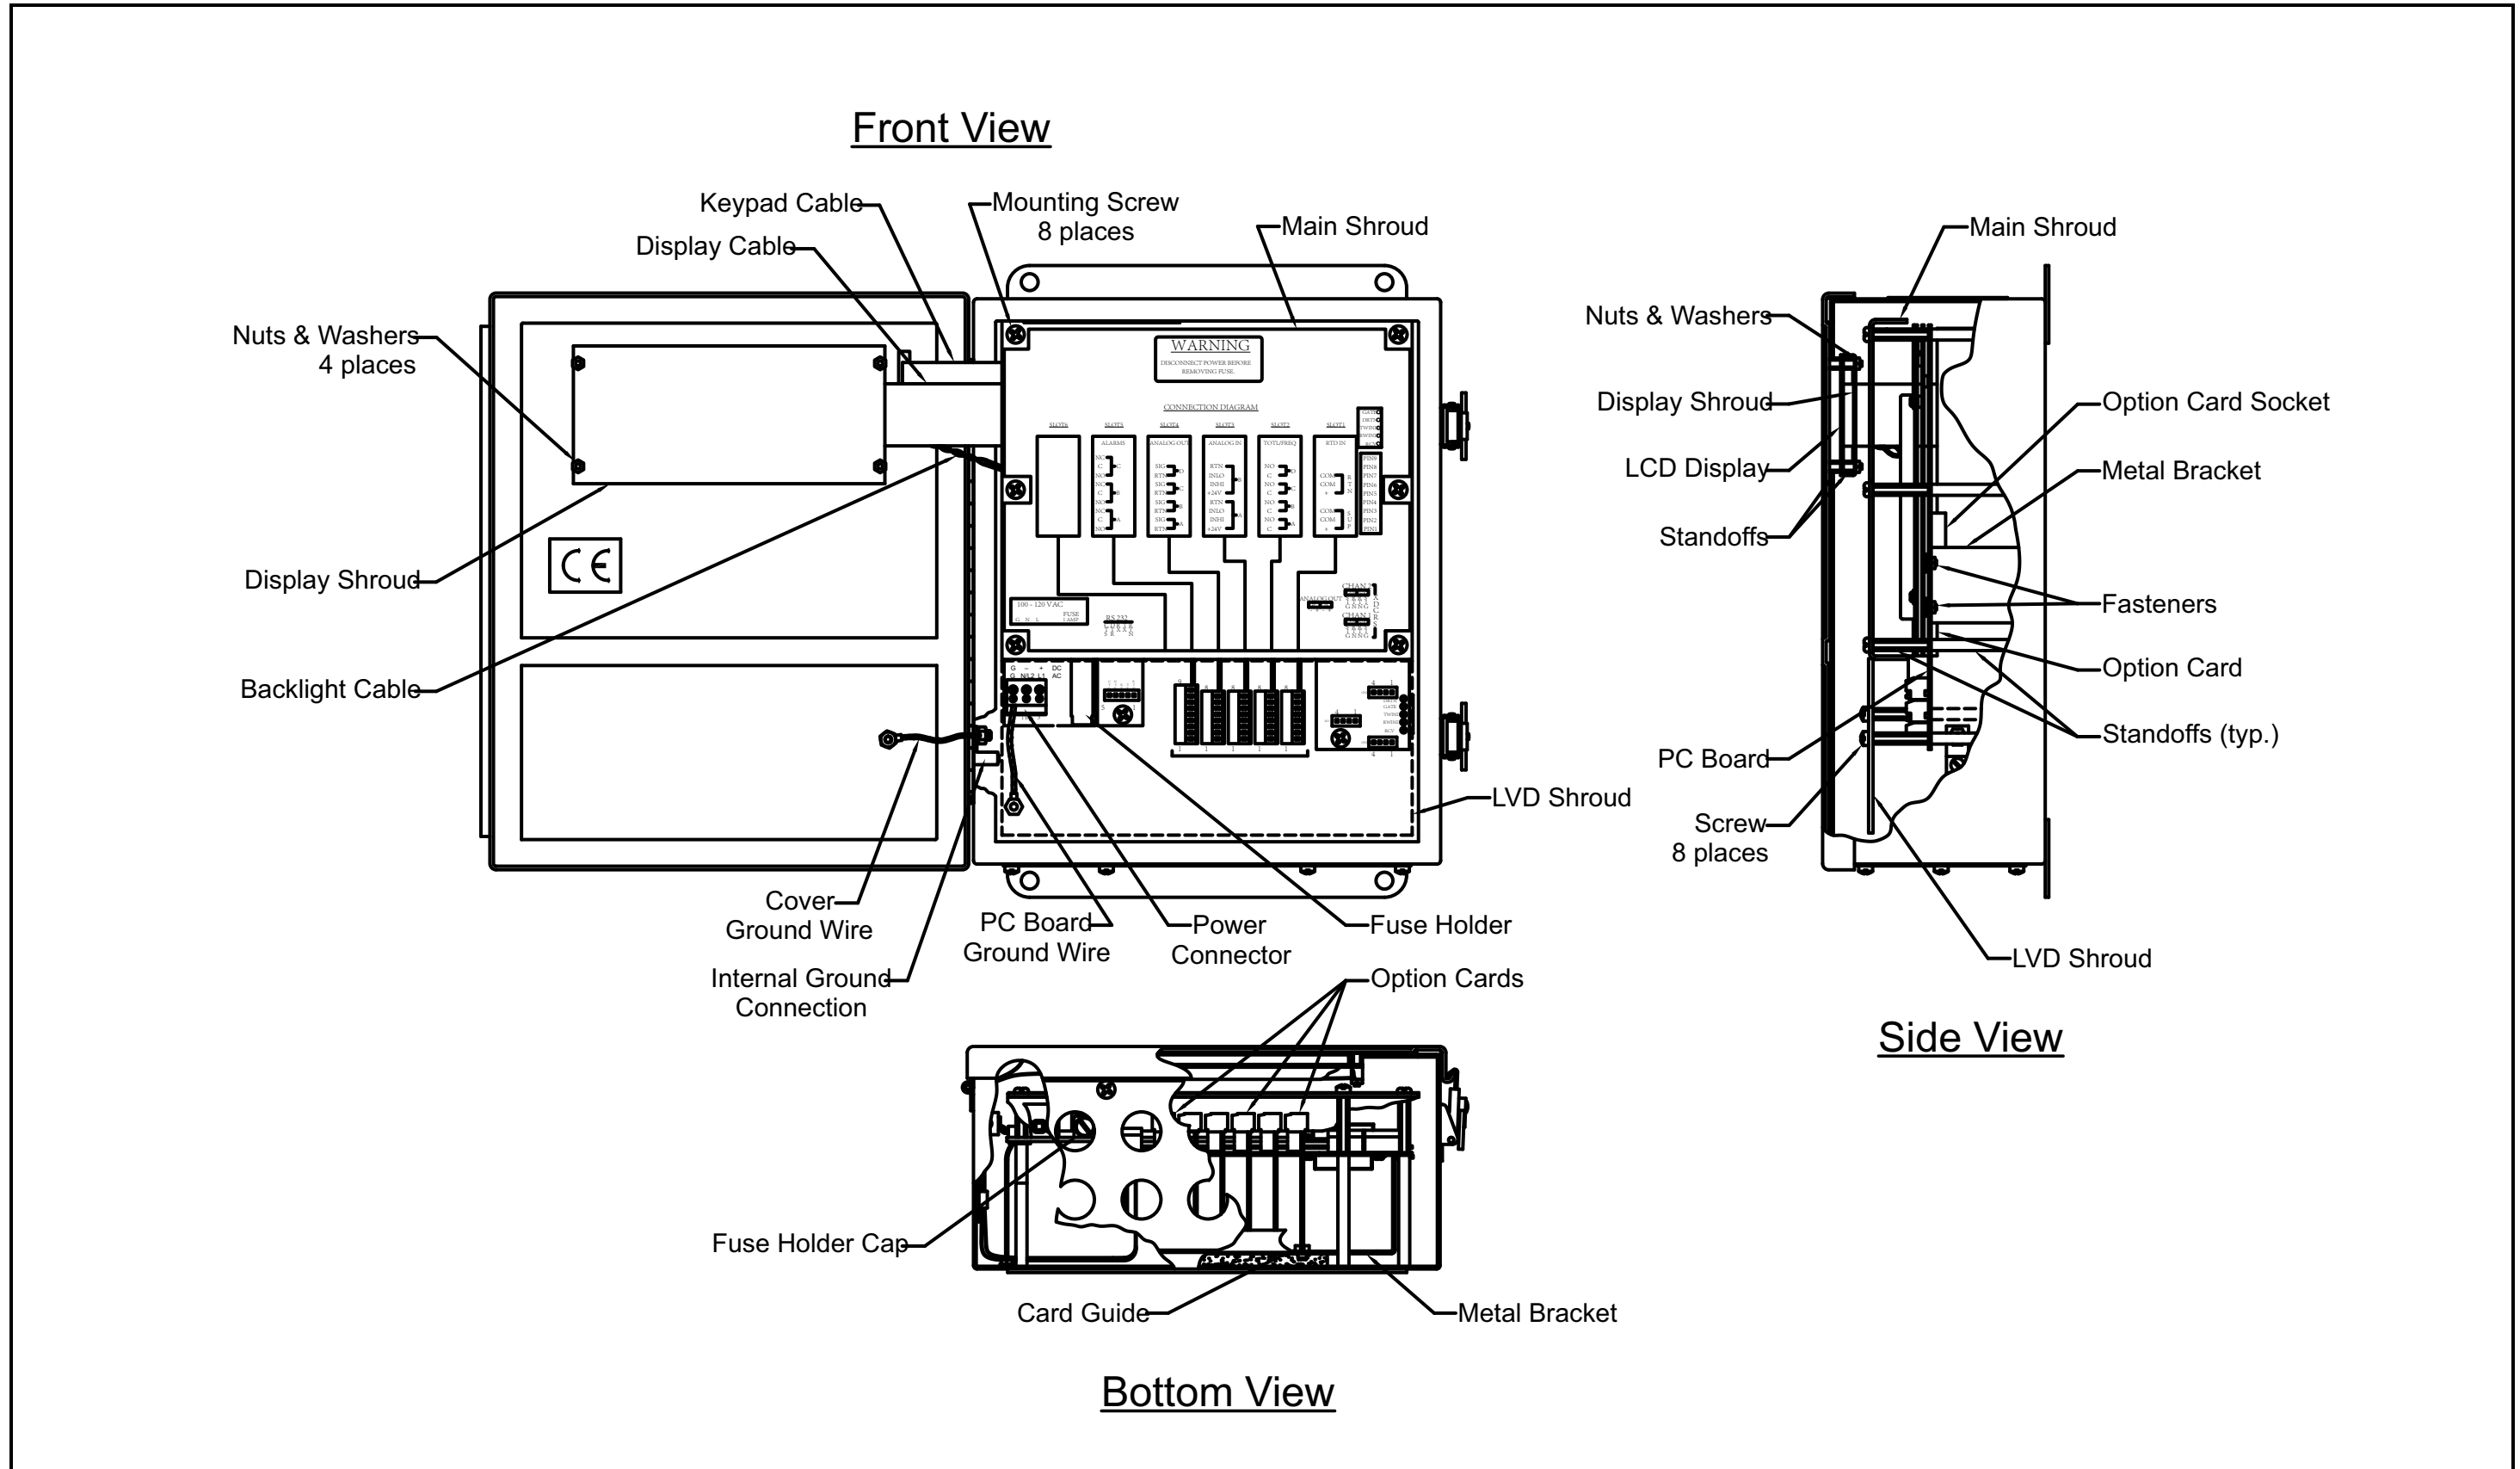
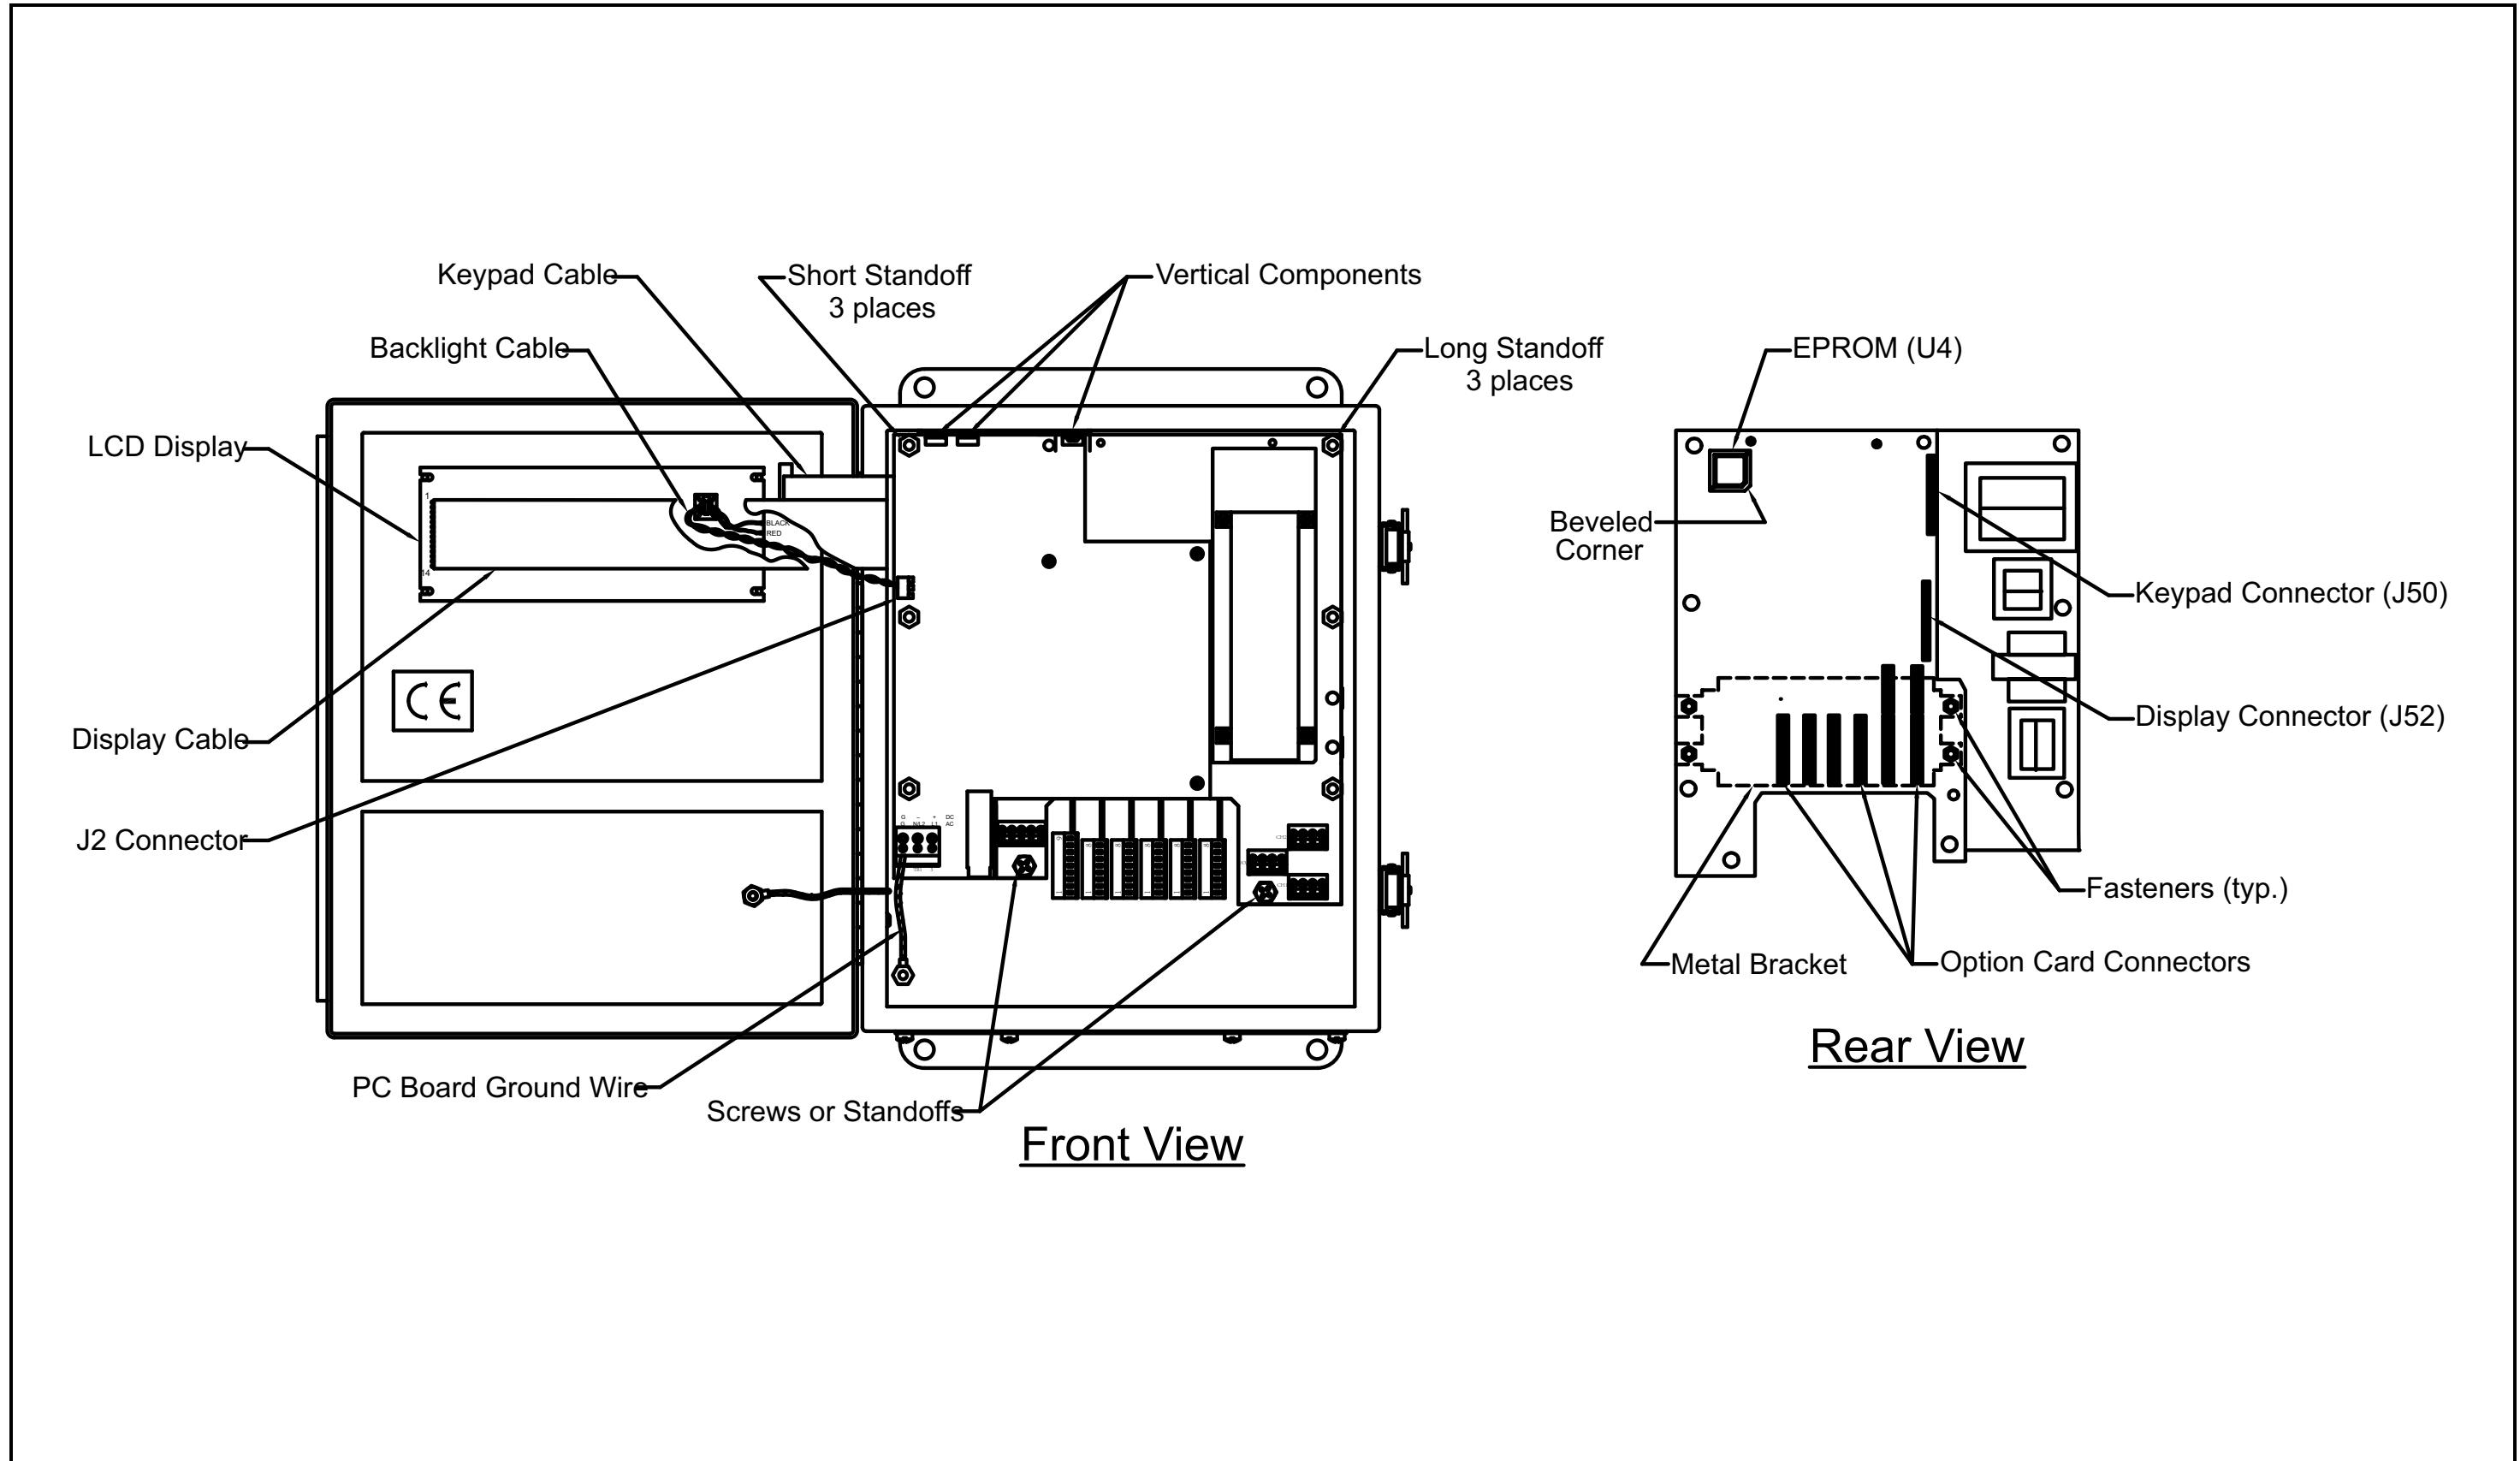

Figure 8: Standard Model GM868 - Electronics Console Assembly
Figure 9: Standard Model GM868 - Printed Circuit Board Assembly
All of the remaining maintenance procedures discussed in this chapter require removing the printed circuit board. To accomplish this task, refer to Figure 8 on page 39 and Figure 9 on page 40 while completing the following tasks:
**CAUTION!** During this procedure, be very careful not to damage the upright components along the top edge of the printed circuit board (see Figure 9 on page 40). Severe or repeated bending of these components will break their leads.
The Model GM868's *User Program* is stored on an erasable programmable read only memory (EPROM) chip. The EPROM, which is designated as component **U4**, is located in the top left corner of the rear of the printed circuit board (see Figure 9 on page 40). EPROM replacement may be required to replace a defective chip or to upgrade to a newer software version. To replace the EPROM, complete the following steps:
To install an option card, refer to Figure 9 on page 40 and complete the following steps:
5. Place the metal bracket over the option cards, making sure that all option cards are aligned with the plastic card guides in the bracket. Secure the metal bracket to the printed circuit board with the snap rivets provided. See the installed assembly in Figure 8 on page 39.
The Model GM868's measurements are displayed on a two-pane LCD graphic display panel. The LCD display normally provides years of dependable service, but it is easily field-replaceable when necessary. To replace the LCD display, see Figure 8 on page 39 for the component locations, and complete the following steps:
4. Place the new LCD display assembly over the mounting studs on the console cover and fasten it in place with the four standoffs. Make sure that the LCD display assembly is oriented as shown in Figure 9 on page 40.
Whether the printed circuit board was removed for replacement or for one of the other procedures discussed in this chapter, reinstallation of the printed circuit board is the final step in the process. Refer to Figure 8 on page 39 and complete the following steps:
**CAUTION!** During this procedure, be very careful not to damage the vertical components along the top edge of the printed circuit board (see Figure 9 on page 40). Severe or repeated bending of these components will break their leads.
1. Position the printed circuit board within the electronics console with the top edge tilted forward. Insert the display ribbon cable and keypad ribbon cable connectors into their sockets on the rear of the printed circuit board. See Figure 8 on page 39 and Figure 9 on page 40 to identify the cables and sockets. Note that the keypad cable connects to the upper socket and the display cable connects to the lower socket.